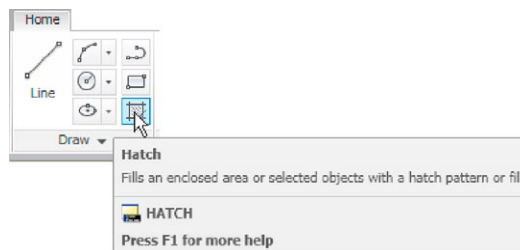

Fig. 8.5 Left-click on the **Hatch** tool icon in the **Home/Draw** panel
1. Left-click on the **Hatch** tool icon in the **Home/Draw** panel (Fig. 8.5). The ribbon changes to the **Hatch Creation** ribbon. *Entering hatch* or *h* at the command line has the same result.